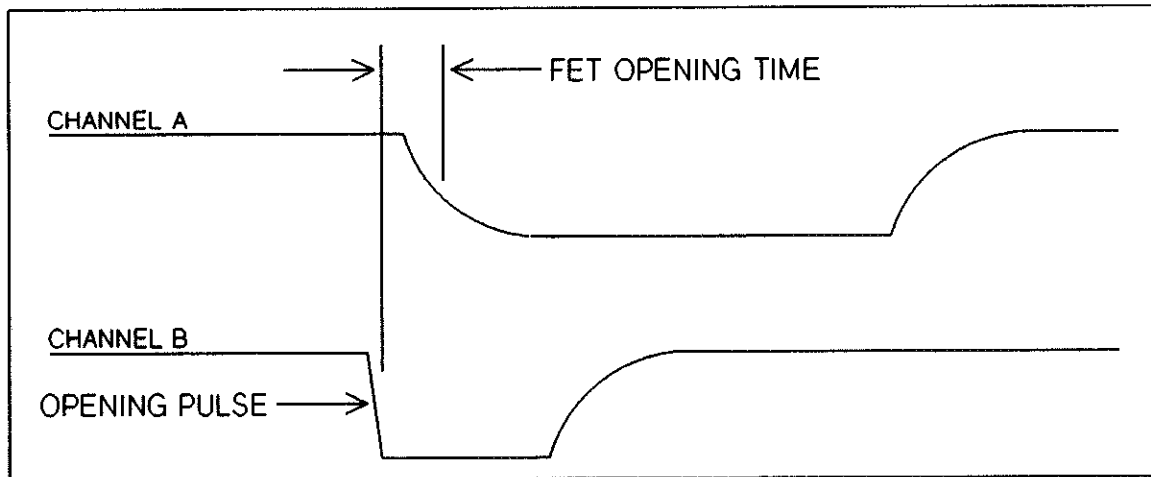

Figure 10-14 HP 44711A Opening Time
3. Rotate the DELAY SWEEP dial to the minimum position. Select the DELAYED sweep mode on the scope. Slowly rotate the DELAY SWEEP dial clockwise while observing the displayed waveforms. The Channel B waveform is the OPENING pulse. The Channel A waveform is the +5V supply as switched by the relays. As the DELAY SWEEP dial is rotated, each channel switch and the associated OPENING pulse will come into view. The FET opening time is the time from the falling edge of the OPENING pulse to the falling edge of the Channel A waveform. This time must be less than 1.2  $\mu$ seconds. The opening time is illustrated in Figure 10-14.